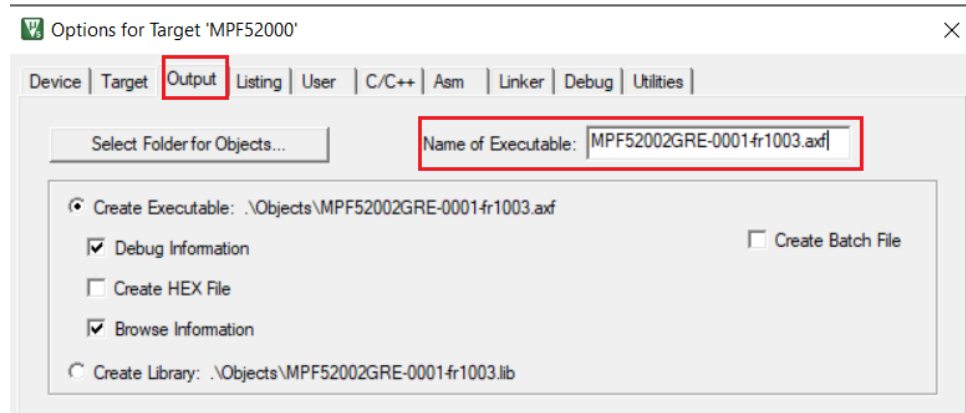

Figure 16: Copying the Full Name of the Firmware
- g. Copy the full name of the firmware (e.g. MPF52002GRE-0001-fr1003.axf) into “Options for Target...” > “Output” > “Name of Executable”, and then click “OK” (see Figure 16).